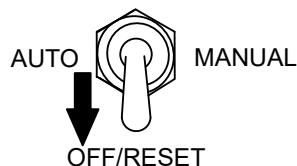

Figure 65. Auto Start/Stop Switch (Off/Reset Position)
5. Place the **Auto Start/Stop switch** (Figure 65) in the **OFF/RESET** position.